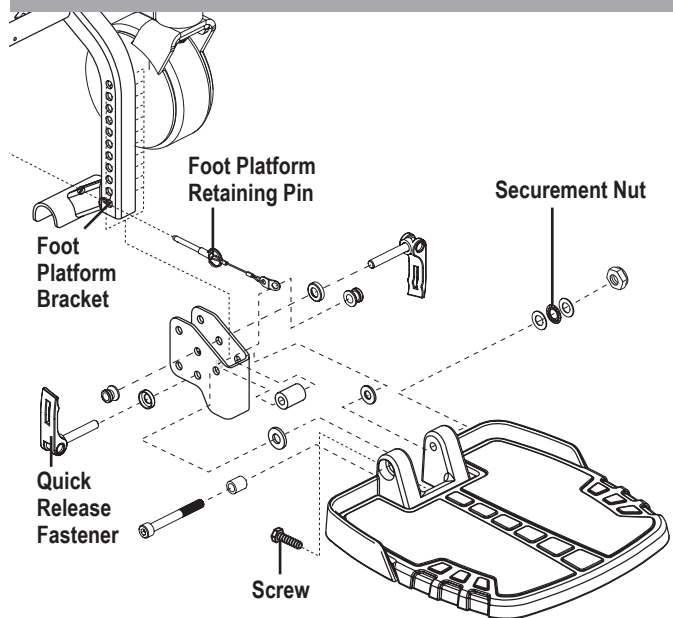
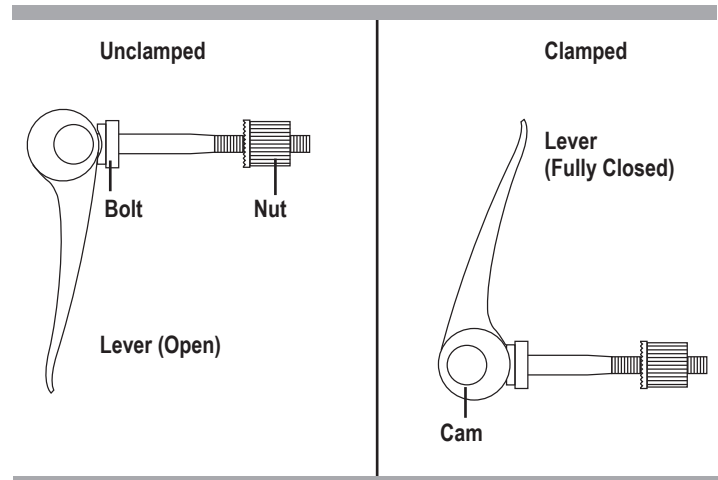

Figure 16. Foot Platform Adjustment
Figure 17. Quick Release Fastener Operation
- Remove the quick release fasteners from the foot platform bracket. **See figure 16.**
Quick Release Fasteners: The foot platform is attached to the power base with two quick release fasteners. **See figure 16.** Each quick release fastener consists of a bolt, a lever, and a nut. **See figure 17.** The lever has a cam on the end that allows it to clamp into place. The quick release fastener has two states: clamped and unclamped. When the lever is open, the quick release fastener is unclamped. When the lever is closed, the quick release fastener is clamped.